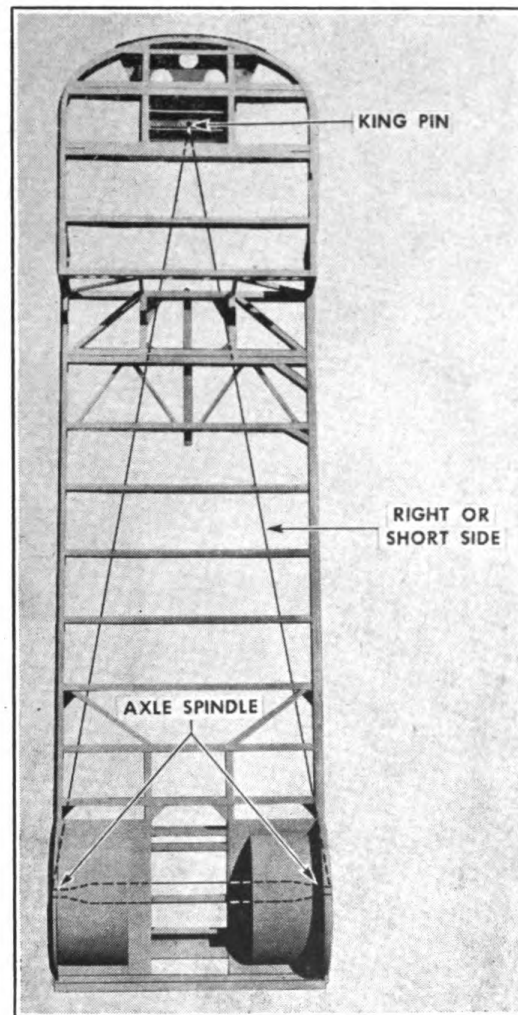

FIGURE 16. AXLE ALIGNMENT—SEMI-TRAILER.
4. AXLE ALIGNMENT—SEMI-TRAILER (Fig. 16).—*a.* Jack up unit using two jacks, one on right side and the other on left side, under axle. Remove both wheel assemblies.